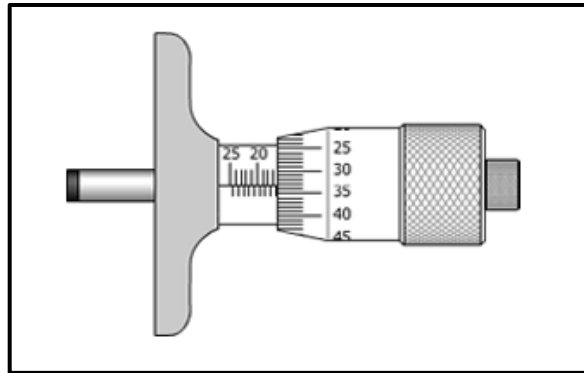

FIGURE 4.6
- D Store the equipment in a damp area. (1)
4.6 Identify the type of instrument shown in FIGURE 4.6 below.